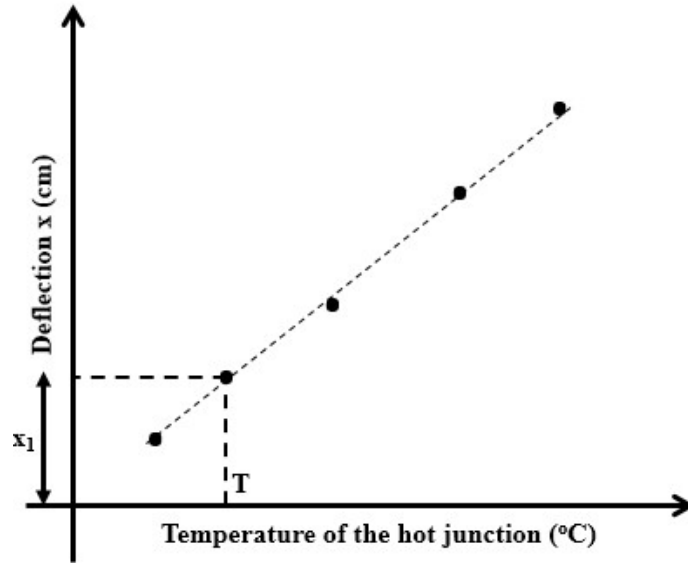

Fig. 2
6. Plot the graph between time (t) along the x-axis and corresponding deflection (x) along the y-axis. Choose a point P on the graph close to the origin and draw a tangent to the curve at this point to calculate  $\frac{dx}{dt}$ . Note down the deflection ( $x_1$ ) corresponding to the point P (Refer Figure 3). Thereafter, note down the temperature T corresponding to the deflection  $x_1$  (Refer Figure 2).